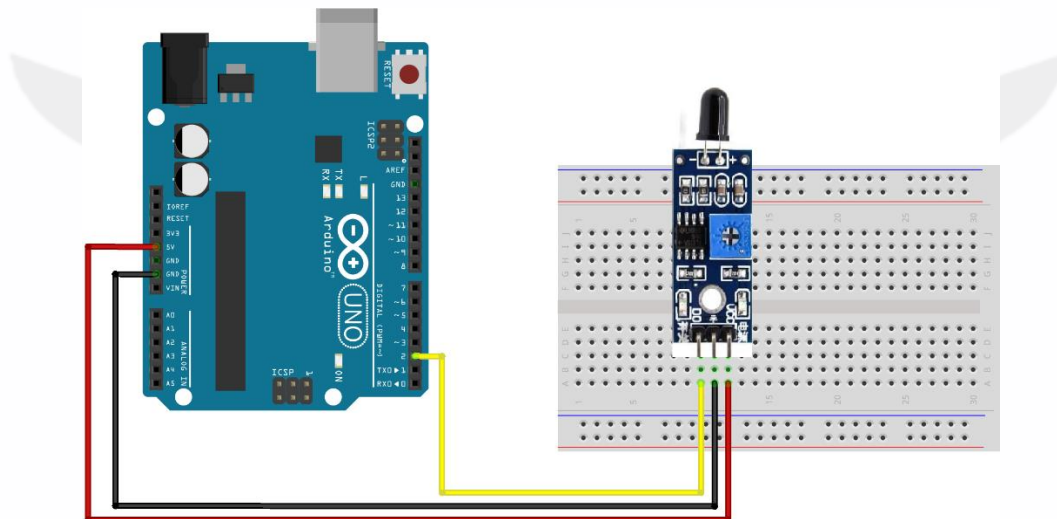

Figure 4.1 – Wiring diagram for Flame Detection project
- a. Connect the flame sensor as shown in the **Wiring Diagram (Figure 4.1)**.